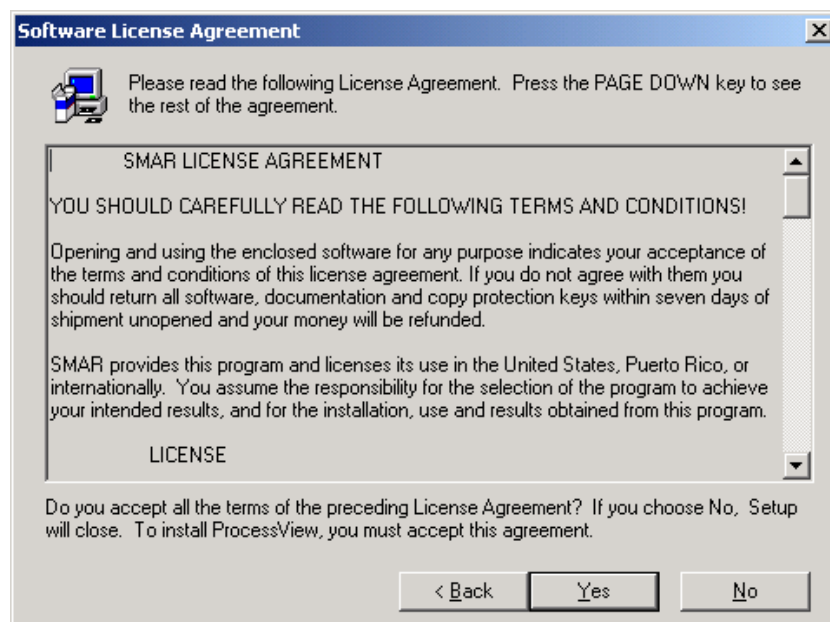

Figure 3.2. License Utility Version Notice
6. If you have a previous version of the ProcessView License Utility installed, a notice appears as shown **Figure 3.2**. By installing the ProcessView 7.0 License Utility, you will no longer be able to run the 5.x and 6.x versions of ProcessView. If you have an existing Site Key for 5.x or a 6.x, a temporary 30-day license will be authorized for ProcessView 7.0. Click **Yes** to continue.